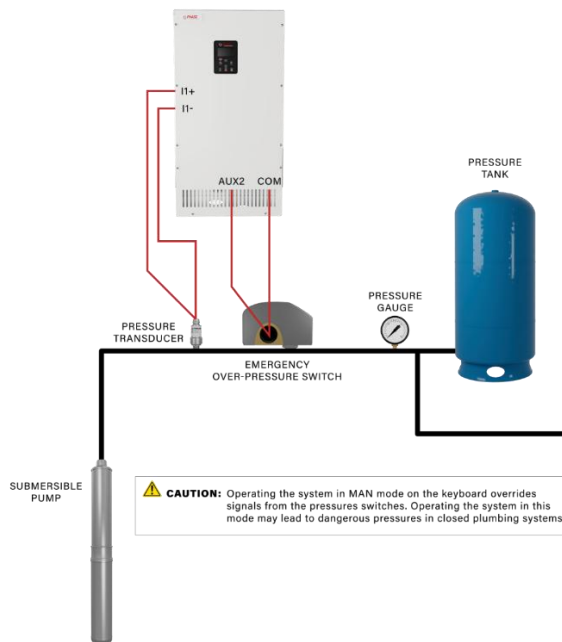

Figure 16 – Analog Constant Pressure One-Line Diagram
- The analog constant pressure (CP) system utilizes an analog pressure transducer connected to the drive's control terminals (see Figure 16 for wiring details).
- Some systems may require tuning the PID Loop. In such systems, a proportional-integral (PI) or proportional-integral-derivative (PID) controller is typically used within the feedback loop to optimize performance. This controller has a gain adjustment that must be tuned by the user for each application to achieve the best balance between stability and responsiveness.
- Plumb the over-pressure switch into the water line at the designated location (Figure 16).
- Connect a twisted pair of wires from the switch's normally closed (NC) and common (COM) terminals to the corresponding AUX2 and COM terminals on the VFD. Ensure that the setting is at least +10psi greater than setpoint.